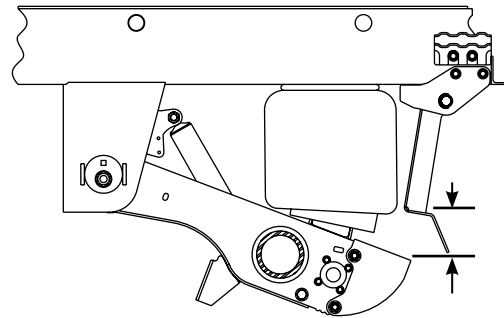
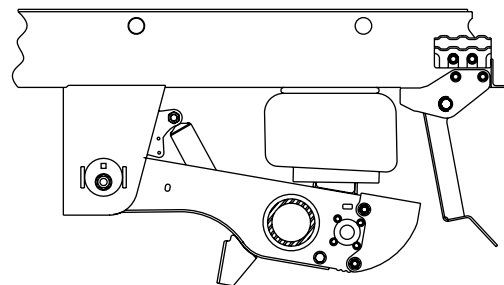

Figure 4: Ride height set too high
Figure 5: Ride height set too low
Any increase above the specified maximum ride height can reduce the effectiveness of SURELOK to limit trailer drop and/or walk. See Figure 4. Conversely, any ride height set below the specified minimum ride height value will prevent the SURELOK support arms from properly engaging. See Figure 5.
- A. If ride height is set **above the specified maximum** value (Figure 4), the trailer has the potential to exhibit excessive "walk" and/or drop before the SURELOK support arms can contact the beam and maintain trailer height.
- B. If ride height is set **below the specified minimum** value (Figure 5), the SURELOK support arms (shown in retracted position) cannot contact and properly engage the beam.